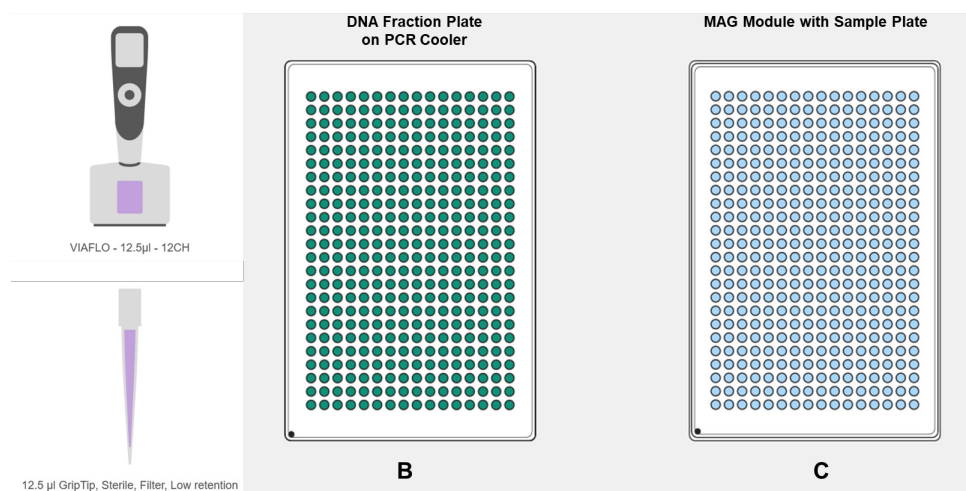

Figure 16: RO384_05_TRF-PA.
- Place on the MAG Module in Position C on the ASSIST PLUS deck (Figure 16). Ensure the MAG Module is connected and turned on.